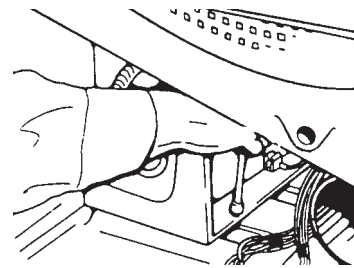

Fig. 4-21
2. Remove two screws mounting motor in place. (Fig. 4-21)